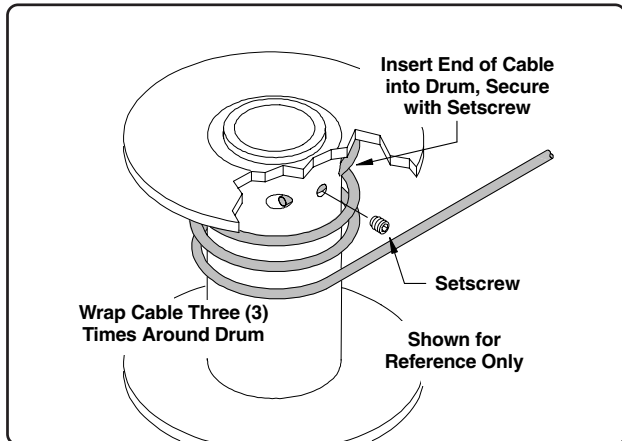

Fig. 33
1. After oil has been added, position the winch below the winch mount plate and secure to mount using four (4) 1/2" x 1 3/4" bolts, lock washers and non-lock nuts (See illustration on Page 73).
2. Locate the 3/8" dia. lift cable (see the following chart for cable lengths) and attach cable to winch drum. Make three (3) wraps of cable around the winch drum, then insert the end of the cable into one of the larger holes on the drum (it may be necessary to loosen the setscrew to allow the cable to slide through the opening, See Fig. 33).